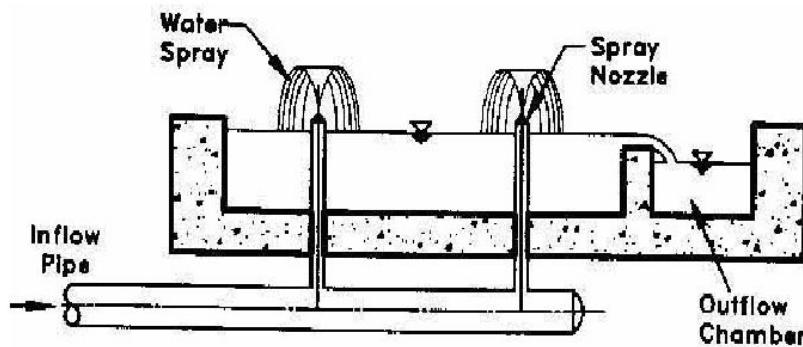

Fig. 3.2: Spray Aerator
**Spray Aerator** (water into the air): Spray aerator spray droplets of water into the air from moving or stationary orifice or nozzles. The water raises either vertically or at an angle and falls onto a collecting apron, a contact bed, or a collecting basin. Spray aerators are also designed as decorative fountains. To produce an atomizing jet, a large amount of power is required, and the water must be free of large solids. Losses from wind carryover and freezing in cold climates may cause serious problems. A typical spray aerator is shown in Fig.3.2.